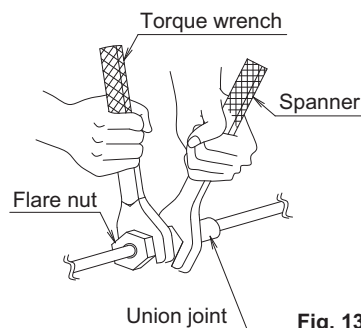

Fig. 13
- When connecting the pipings to the air conditioner, make sure to use a spanner and a torque wrench as shown in Fig.13.